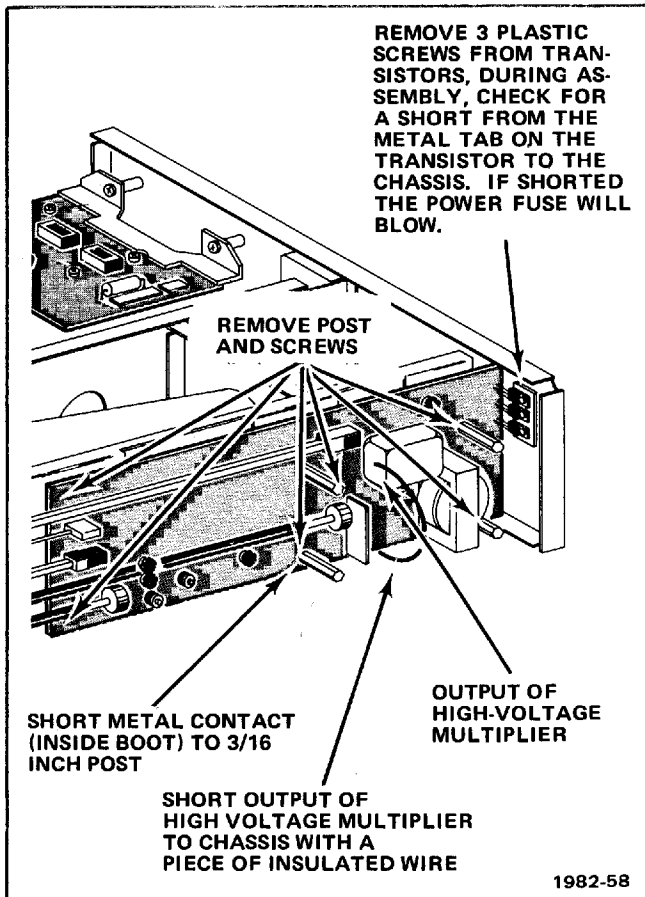

Fig. 5-12. T922R interface board replacement.
The crt anode and the high voltage multiplier will hold a charge after you turn off the instrument. To prevent a shock hazard, use only one hand to remove the anode lead. Then, touch the anode lead to one of the posts to discharge the crt (see Fig. 5-12). Also take a short piece of insulated wire and short the output of the high-voltage multiplier to the chassis (see Fig. 5-12).
9. Remove the screws and posts from the interface board (see Fig. 5-12).
11. During reassembly, use the plastic screws to hold the power transistors (see Fig. 5-12).
*The crt anode and the high-voltage multiplier will hold a charge after you turn off the instrument. To prevent a shock hazard, use only one hand to remove the anode lead. Then, touch the anode lead to one of the posts to discharge the crt (see Fig. 5-12). Also, take a short piece of insulated wire and short the output of the high-voltage multiplier to the chassis (see Fig. 5-12).*